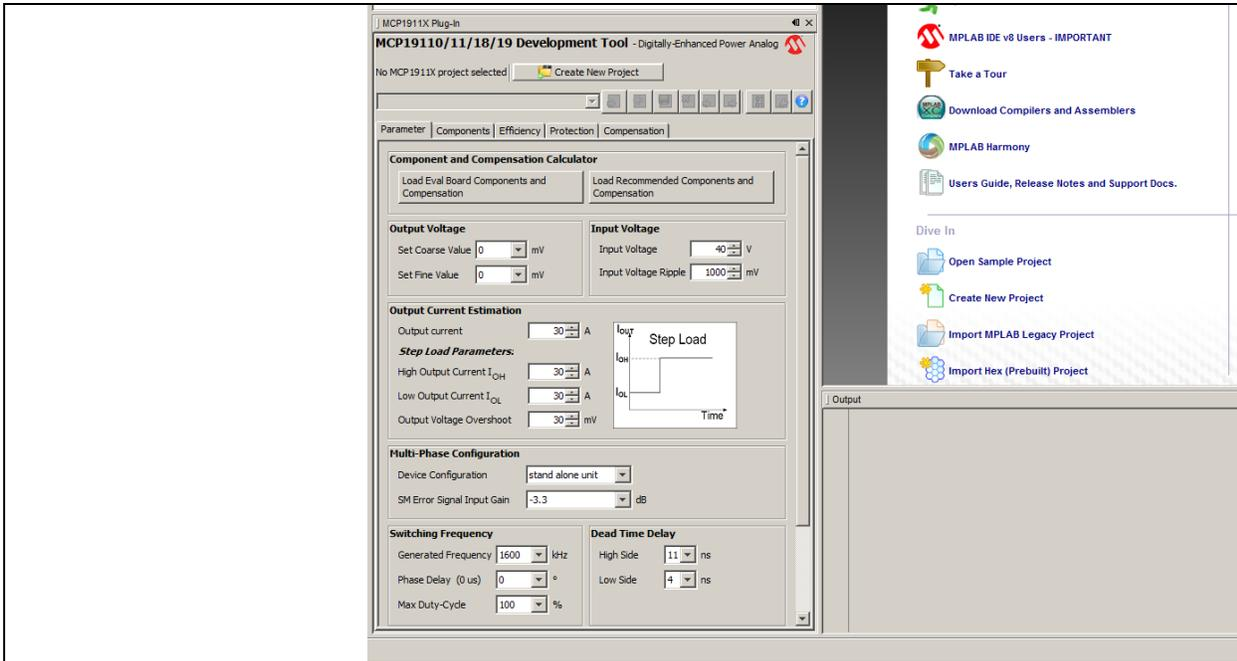

FIGURE 2-8: MCP19110/11/18/19 MPLAB X Plug-In Tab After Installation.
11. Once the installation completes, select **Finish** to close the Plugin Installer window. The installation requires the MPLAB X IDE to be restarted. Choose the option that best fits your needs. When done, the MCP19110/11/18/19 – Buck Power Supply Graphical User Interface Plug-In should be visible as displayed in Figure 2-8.
The plug-in needs an MCP1911X project to work on in order to be enabled. Figure 2-8 shows the MCP19110/11/18/19 Plug-In GUI when no project is currently opened. If there are no MCP1911X projects, the plug-in can create a new MCP1911X project using the **Create New Project** button. This button will open a window that allows choosing the new project folder location. The MCP1911X project folder can be placed in any location. Once the project is created, it will be automatically opened by MPLAB X IDE.